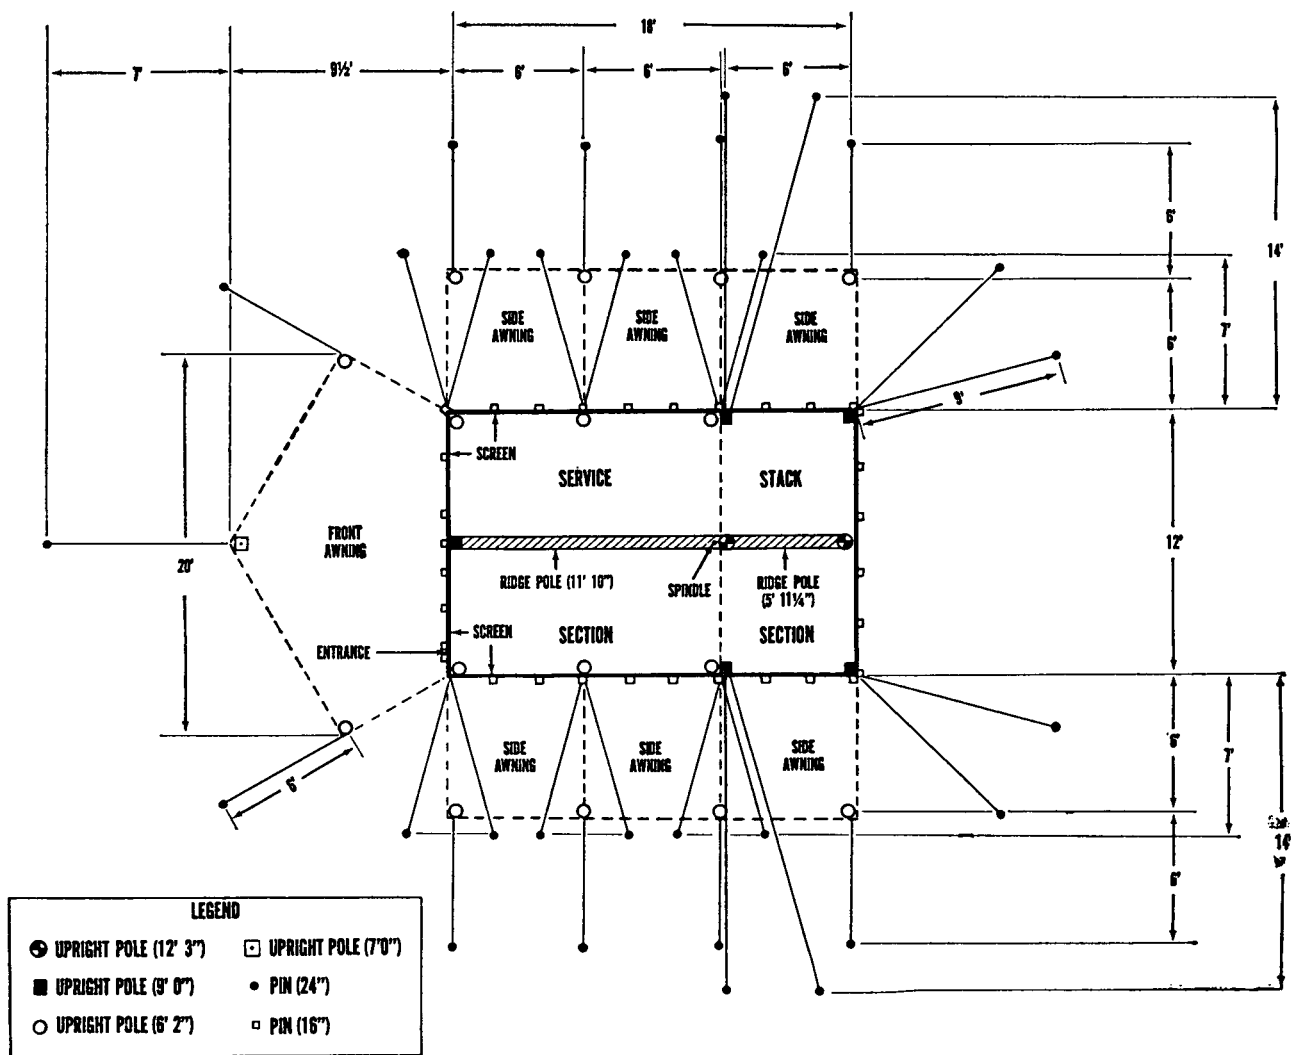

Figure 40. Ground plan of tent, kitchen, flyproof, M-1948.
c. *Ground Plan.* Before pitching the tent, study the ground plan carefully (fig 40).